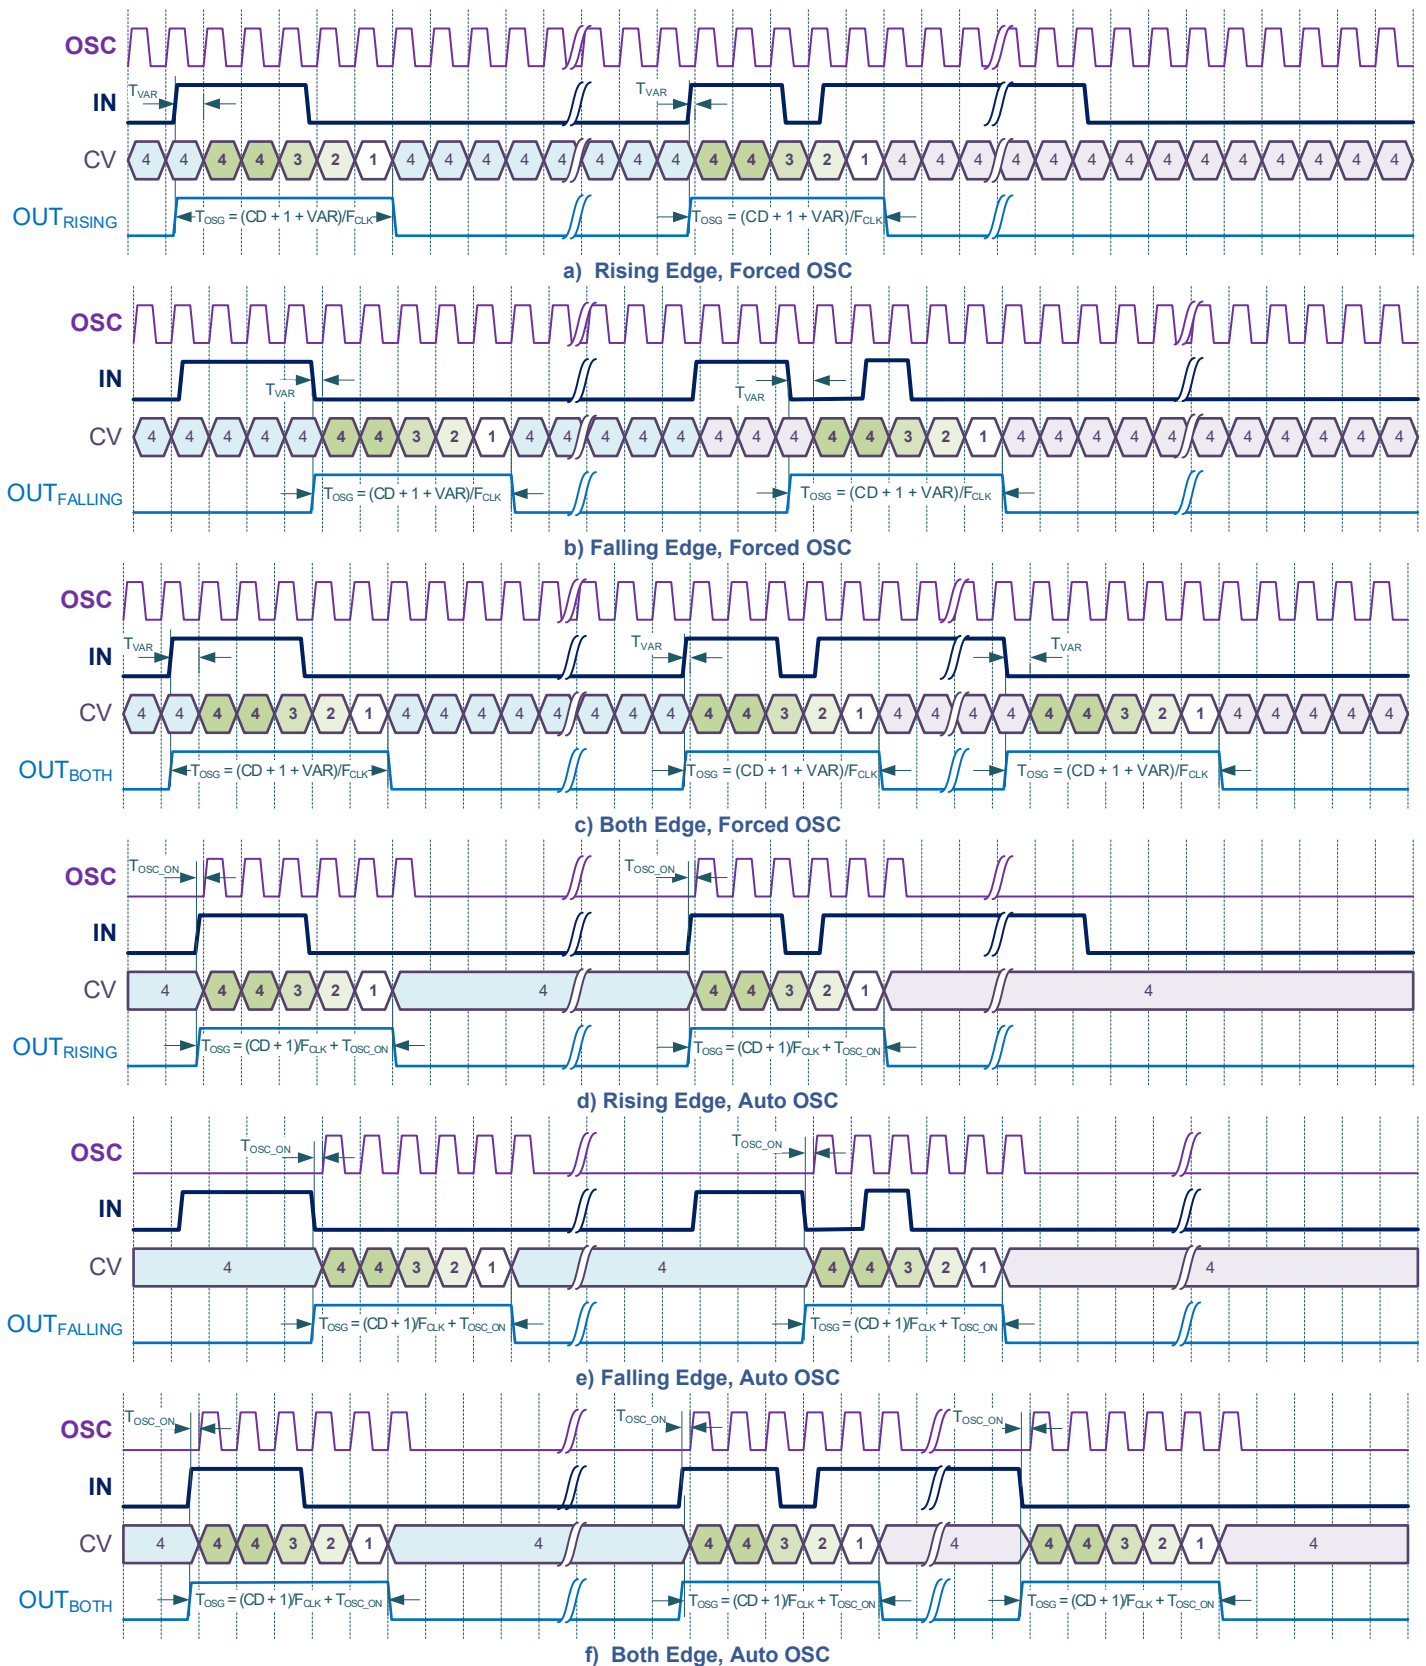

Figure 8.7. One-Shot Generator Mode (Control Data: 4)
In One-Shot mode, this macrocell generates a high-level pulse with a set width when detecting the edge event, which is selectable by the registers on its IN input. The pulse width is determined by the Control Data, input clock signal, and selected prescaler value. Any incoming edges are ignored during pulse width generation. The timing diagrams of this mode are shown in the Figure 8.7.
- One Shot (Figure 8.7)